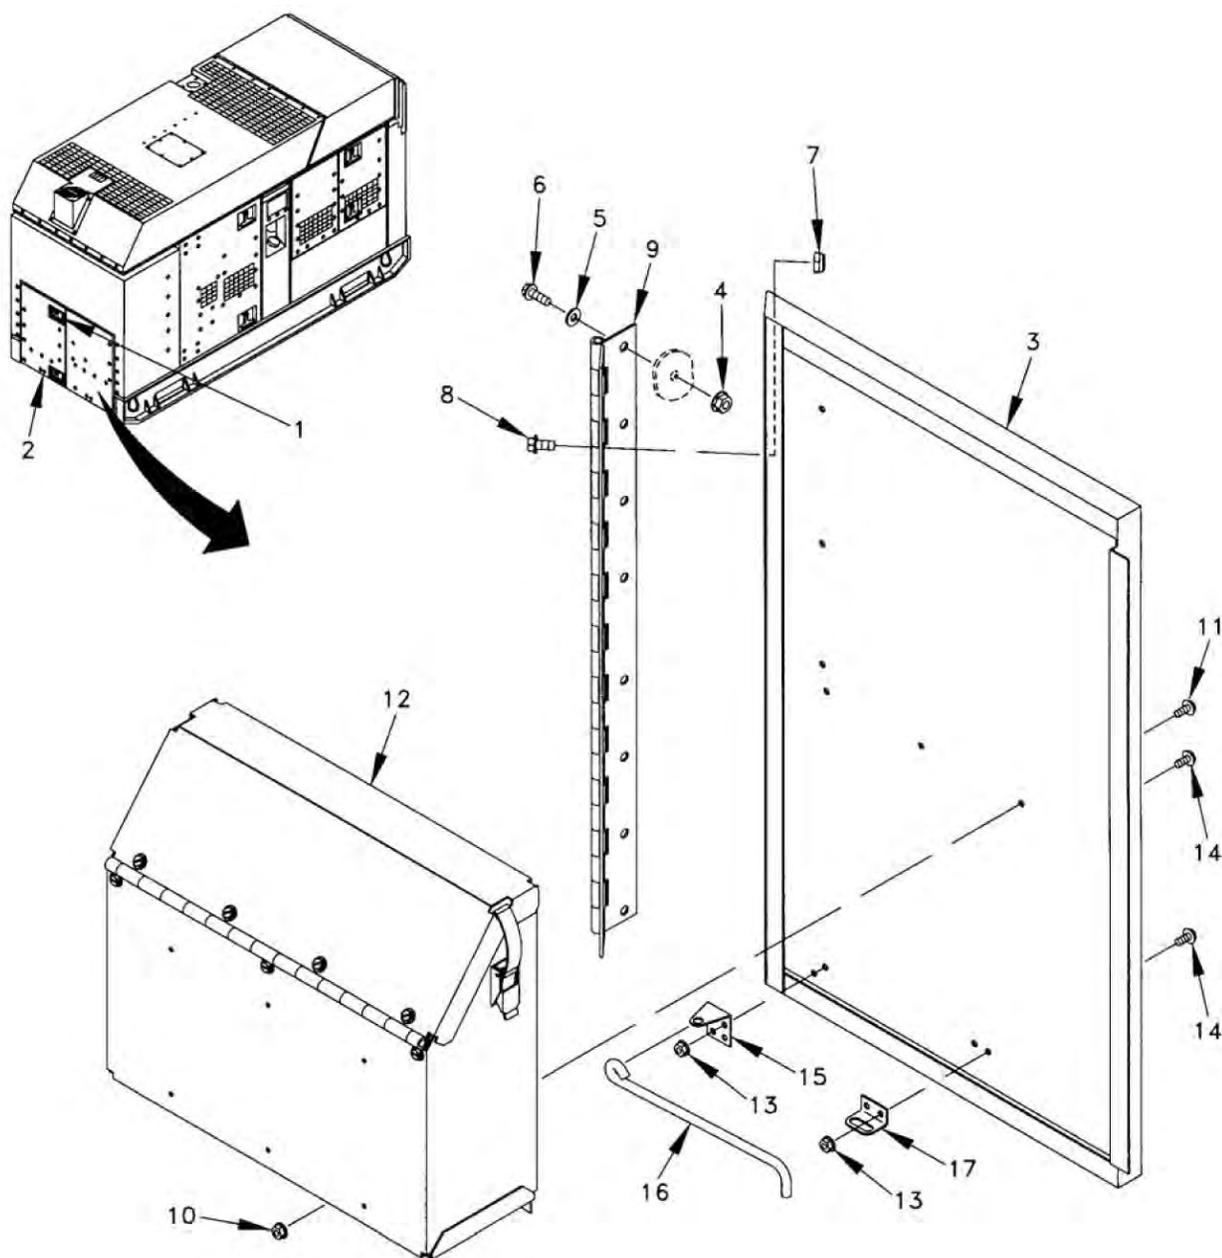

Figure 1. Left Battery Access Door Assembly.
1. Turn two latches (Figure 1, Item 1) and open right and left battery access doors (Figure 1, Item 2) and (Figure 1, Item 3).
2. Remove five locknuts (Figure 1, Item 4), washers (Figure 1, Item 5), screws (Figure 1, Item 6), and left battery access door and hinge (Figure 1, Item 3).
1. Remove eight locknuts (Figure 1, Item 7), screws (Figure 1, Item 8), and hinge (Figure 1, Item 9) from left battery access door (Figure 1, Item 3).
2. Remove nine nuts (Figure 1, Item 10), screws (Figure 1, Item 11), and storage box assembly (Figure 1, Item 12).
3. Remove four nuts (Figure 1, Item 13), screws (Figure 1, Item 14), holding rod bracket (Figure 1, Item 15), door holding rod (Figure 1, Item 16), and door holding bracket (Figure 1, Item 17).
3. Install door holding bracket (Figure 1, Item 17), door holding rod (Figure 1, Item 16), and holding rod bracket (Figure 1, Item 15) and secure with four screws (Figure 1, Item 14) and nuts (Figure 1, Item 13).
4. Install storage box assembly (Figure 1, Item 12) and secure with nine screws (Figure 1, Item 11) and nuts (Figure 1, Item 10).
5. Install hinge (Figure 1, Item 9) and secure with eight screws (Figure 1, Item 8) and locknuts (Figure 1, Item 7).